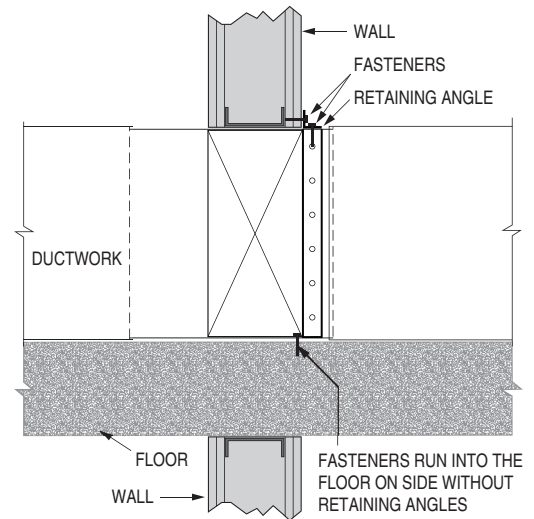
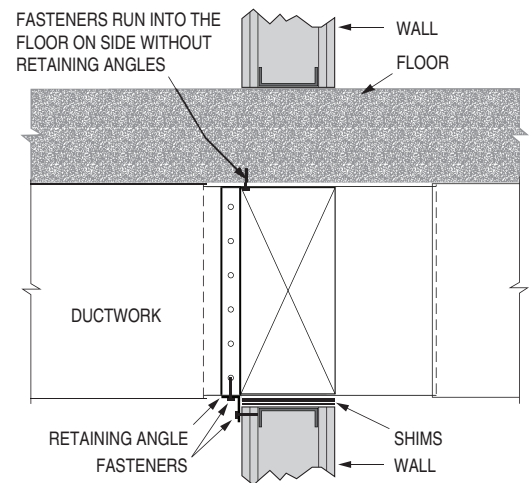

Figure 1: Retaining angle omitted from bottom side of the damper (retaining angles only on one side of the damper)
Figure 2: Retaining angle omitted from top side of the damper (retaining angles only on one side of the damper)
A) When the retaining angle is omitted from the bottom of the damper (Figure 1), the following requirements apply:
1. In the case where the damper sits directly on a concrete floor slab, the bottom retaining angle is not required if the damper sleeve is fastened directly to the slab/base of the opening using 1/4" (6) masonry anchors 1 1/2" (38) minimum length, with minimum 1 1/4" (32) penetration into the floor. For steel stud walls, fasteners shall be #10 x 1 1/2" (38) sheet metal screws.
2. Ensure fasteners are placed in 3" (76) increments from the center of the damper and no more than 2" (51) from the corner.
B) When the retaining angle is omitted from the top of the damper (Figure 2), the following requirements apply: